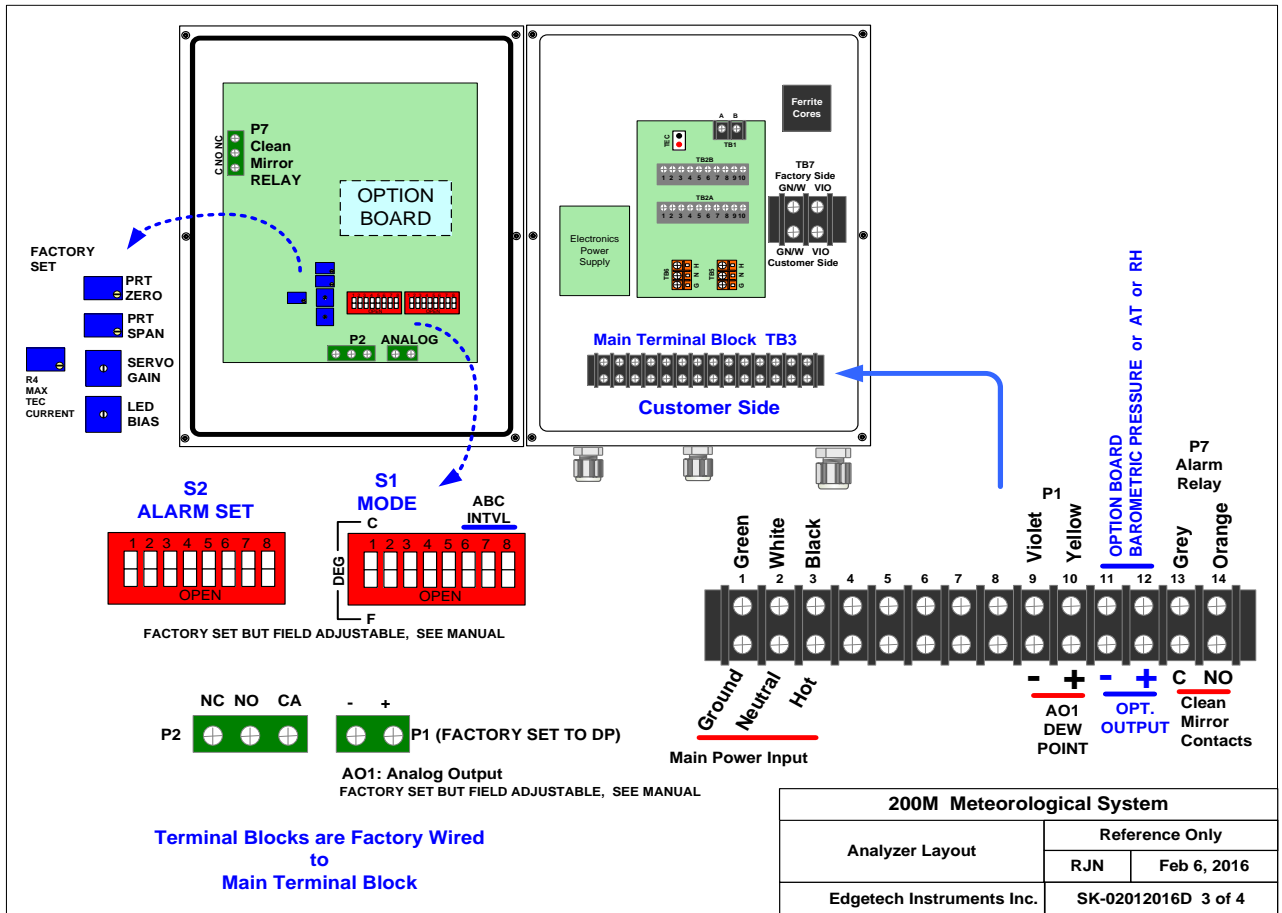

Figure 8-2 PCB layout and connection details
See Figure 8-2. The Aspirator interconnecting cable is attached to the electronics module when shipped from the factory. If the cable is to be routed through conduit or small openings, it may be necessary to disconnect it from the module. To do so, open the water-tight front cover and the front panel. Disconnect the cable from terminals TB1, A and B on the Interconnection PCB, and remove the nut and bushing from the stuffing box. When reconnecting the cable, be sure that all wires are connected to their proper terminals. All wires are labeled with numbers or letters corresponding to letters and numbers on the PCB.
1. It is important to make sure the heavy wires "A" and "B" are correctly connected to TB1, since a reversal of these wires may cause permanent damage to the cooler elements in the sensor. They are shown Figure 8-2.